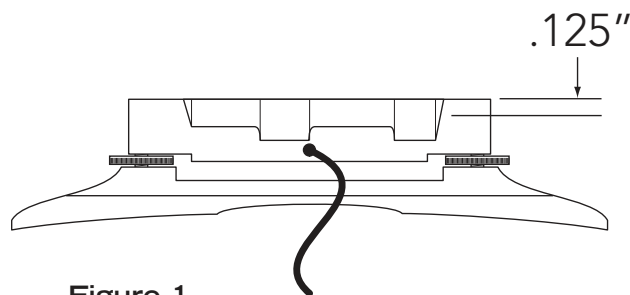

Figure 1
2. When profiling and notching the top of the bridge, you may safely remove up to .125" of wood without damaging the sensing element (figure 1).